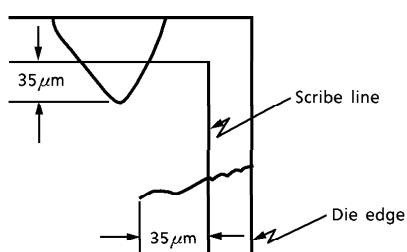

Fig.1
- a) Any crack of chip extends greater than 35 μ m in length into the inside of the scribble line. (see Fig.1)